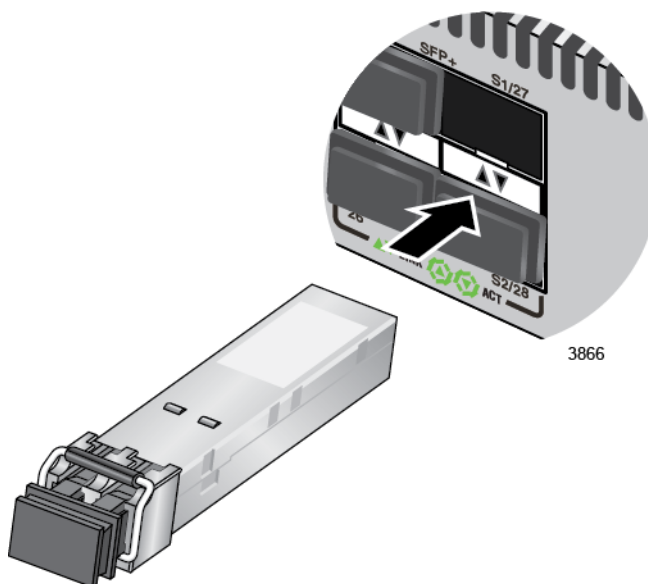

Figure 62. Installing an SFP+ Module
3. Slide the module into the slot until it clicks into place, as shown in Figure 62.